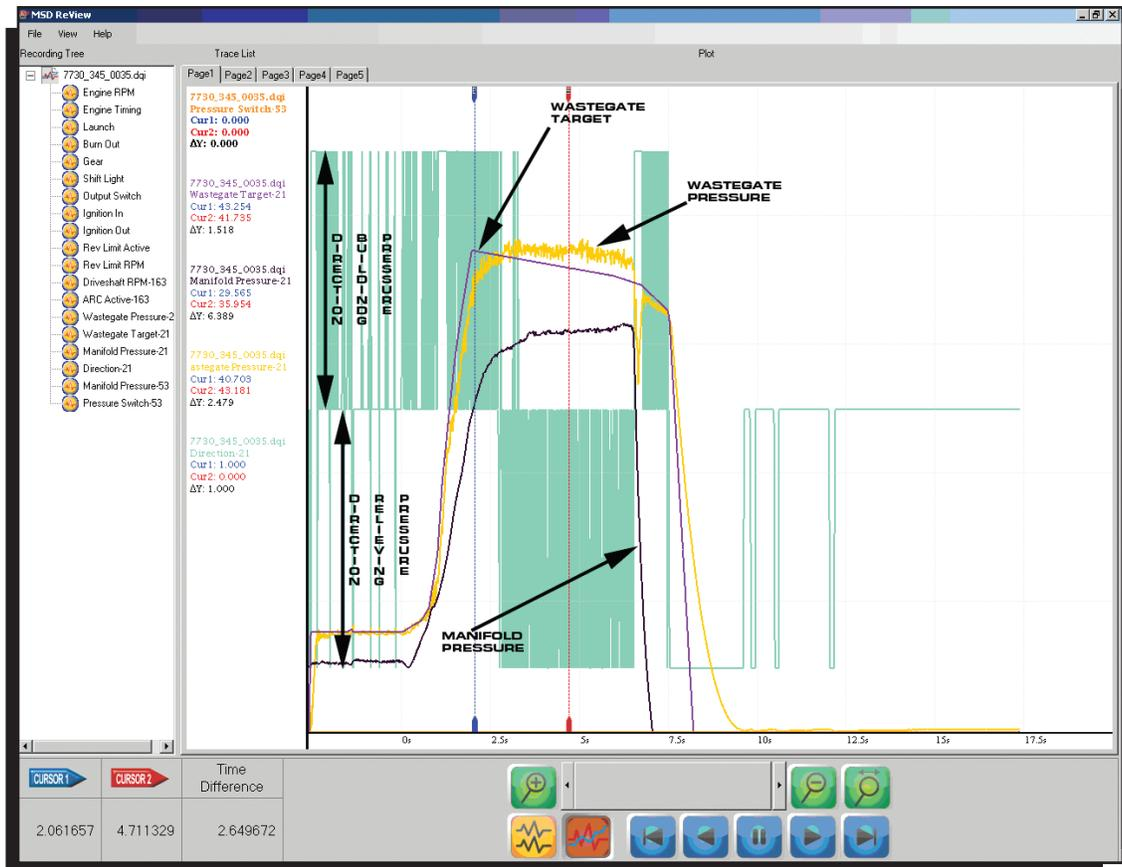

Figure 12 Power Grid Data Acquisition File
**Pressure Switch:** The example in Figure 12 demonstrates the Pressure switch in the OFF position as it is a flat line along the bottom. In this example the pressure switch is not programmed to activate.
**Note:** In Figure 12 the wastegate pressure over shot the Wastegate target curve that was active during the run. The Direction trace shows the solenoids relieving pressure to bring the wastegate pressure down. Even with a pressure difference on the gate of several PSI, the manifold pressure is largely unaffected as these pressure variances rarely relate to huge pressure swings on the manifold.
**Direction:** There are two arrows that describe how the solenoids are either building pressure or relieving pressure in Figure 12.
**Note:** From Figure 12 adding 43psi to the top of the wastegate with a 7PSI spring produces approximately 35-36psi of boost on this combination.